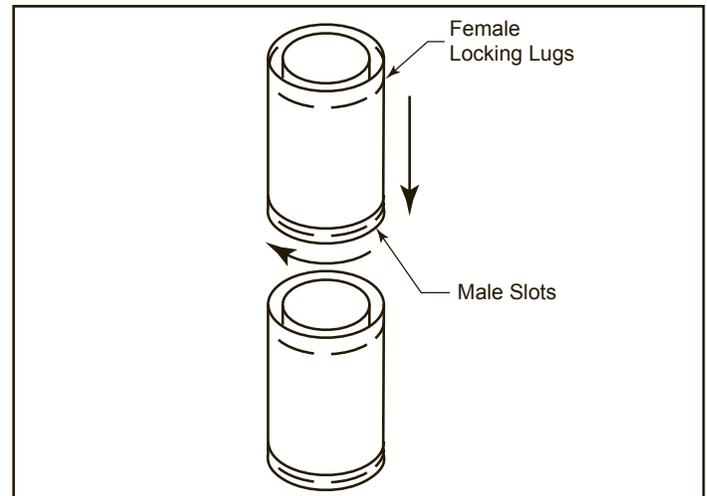

Figure 14 - Rigid Vent Pipe Connections
Twist-lock Procedure: The female ends of the pipes and fittings have three locking lugs (indentations). These lugs will slide straight into matching slots on the male end of adjacent pipes and fittings. Push the pipe sections together and twist one section clockwise approximately one-quarter turn until the sections are fully locked. Figure 14.
2. Assemble the desired lengths of pipe and elbows necessary to reach from the burner system flue up through the firestop. Be sure pipe and elbow connections are fully twist-locked. Figure 14